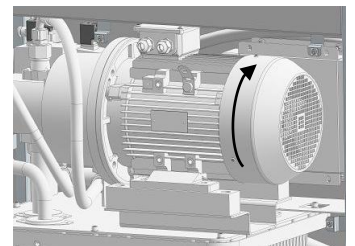

Fig. 18
- Open the front cover of the machine. Switch on the hydraulic system in menu "Manual Operation" to check the direction of rotation of the electric motor (fig. 18). The motor must rotate in the direction of the arrow. After checking, switch off the motor.